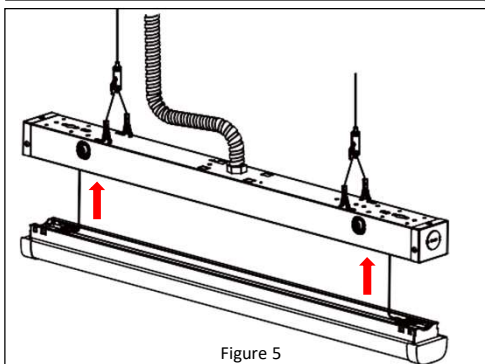

Figure 5
10. Guide the heads of the wood screws into the keyhole slots and slide the fixture base in the direction such that the wood screw heads rest over the narrow part of the keyhole slot. **See Figure 5**. Ensure that the fixture is supported and tighten the wood screws until the fixture is secured to the mounting surface.
10. Close the fixture carefully by pushing the lens into the body making sure not to pinch any wires. *See Figure 5.*